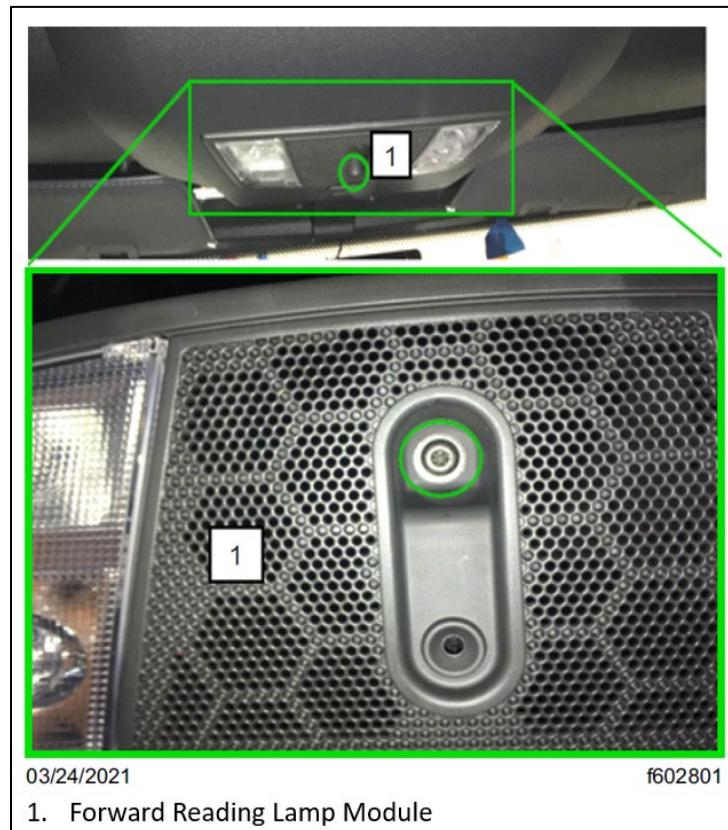

Fig. 14, Forward Reading Lamp Module
- 2.1. Remove the fastener that attaches the reading lamp module to the center overhead storage bin, and then remove the reading lamp module from the vehicle. See **Fig. 14**.